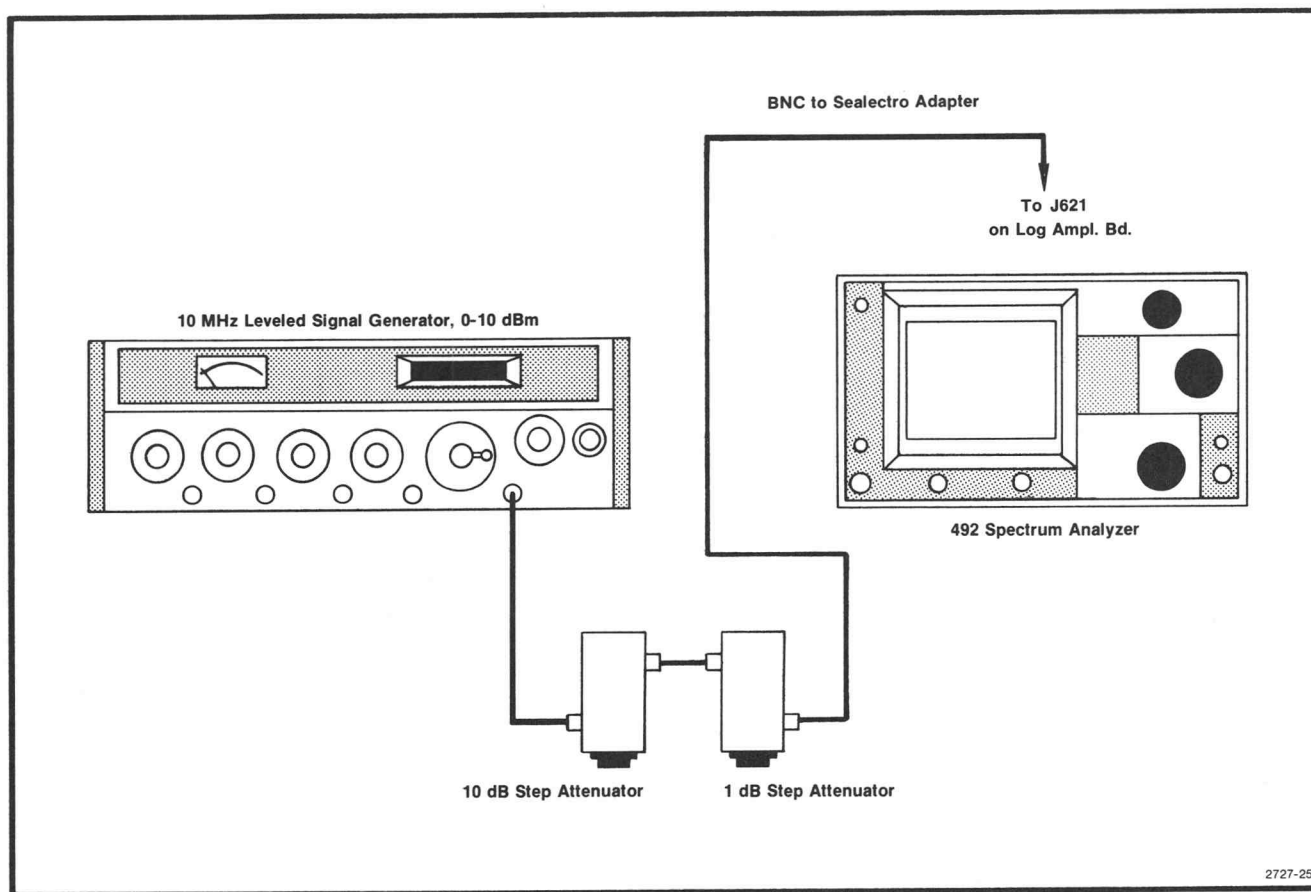
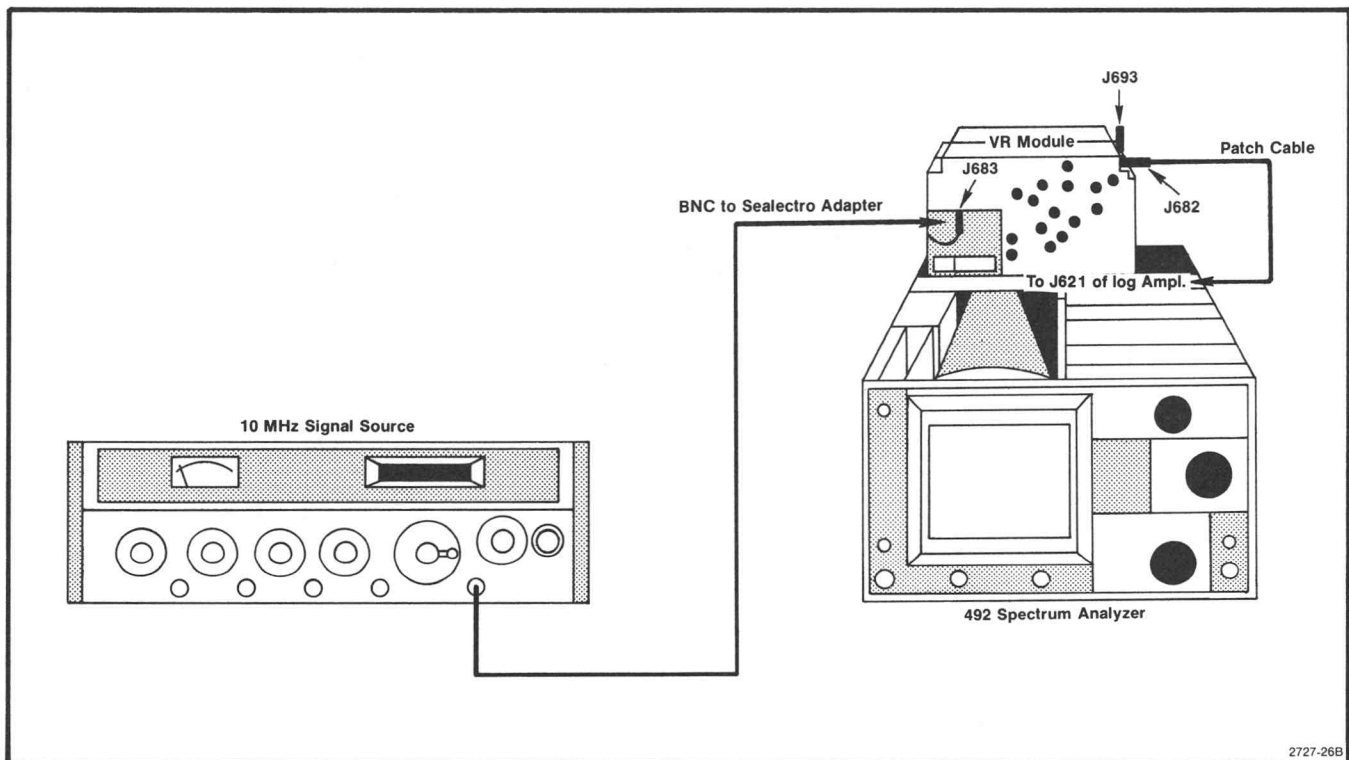

Fig. 3-39. Equipment setup for calibrating log amplifier.
Fig. 3-41. Test equipment setup for calibrating the VR section.
a. Test equipment setup is shown in Fig. 3-39. Set the front panel controls as follows:
a. Equipment setup is shown in Fig. 3-41.
a. Test equipment is shown in Fig. 3-41. Install VR#2 module on an extender board as shown in Fig. 3-39. Set the front panel controls as follows: